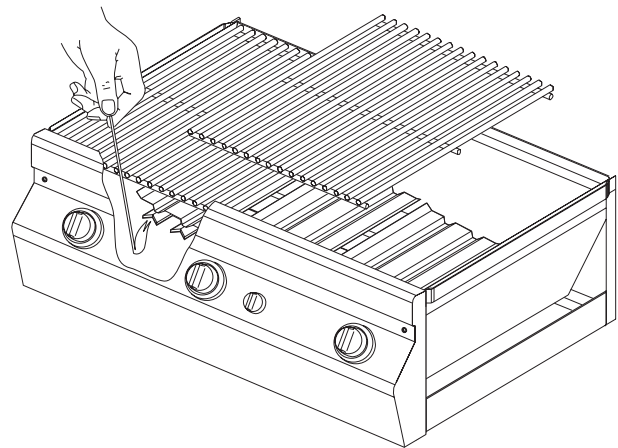

Figure 9 - Manual Lighting
**REMEMBER:** FOR SAFE MANUAL LIGHTING, PLACE A BURNING MATCH OR BUTANE LIGHTER BESIDE THE BURNER - THEN TURN ON THE GAS (Figure 9).